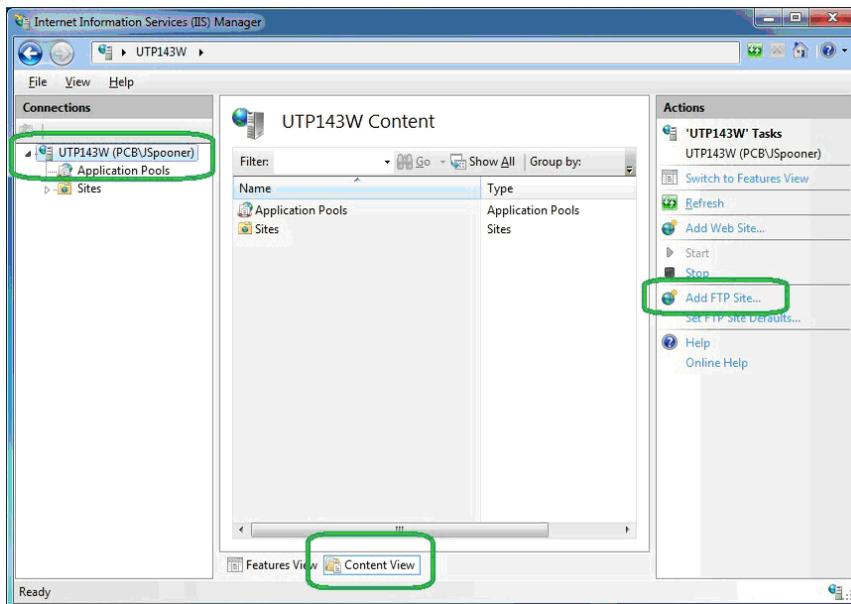

FIGURE 2-32 IIS Service Manager - Add FTP Site
Step 3 Under **Connections** on the Internet Information Services (IIS) Screen, click the local computer icon to expand it, as shown in FIGURE 2-32.
Step 4 Click **Content View**, as shown in FIGURE 2-32.
Step 5 Click **Add FTP Site...**, as shown in FIGURE 2-32.